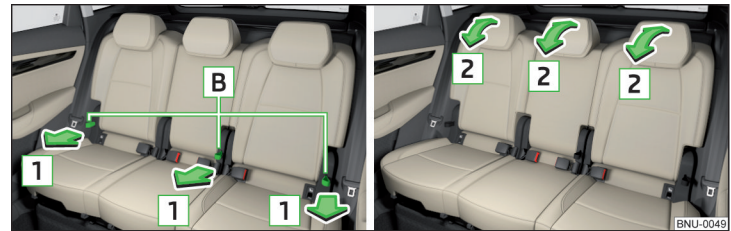

Fig. 88 Adjusting the angle of the seat backrest
► Pull on the loop **B** in the direction of arrow **1** » Fig. 88 and press the seat backrest in direction of arrow **2**. The locking mechanism must audibly snap into place.